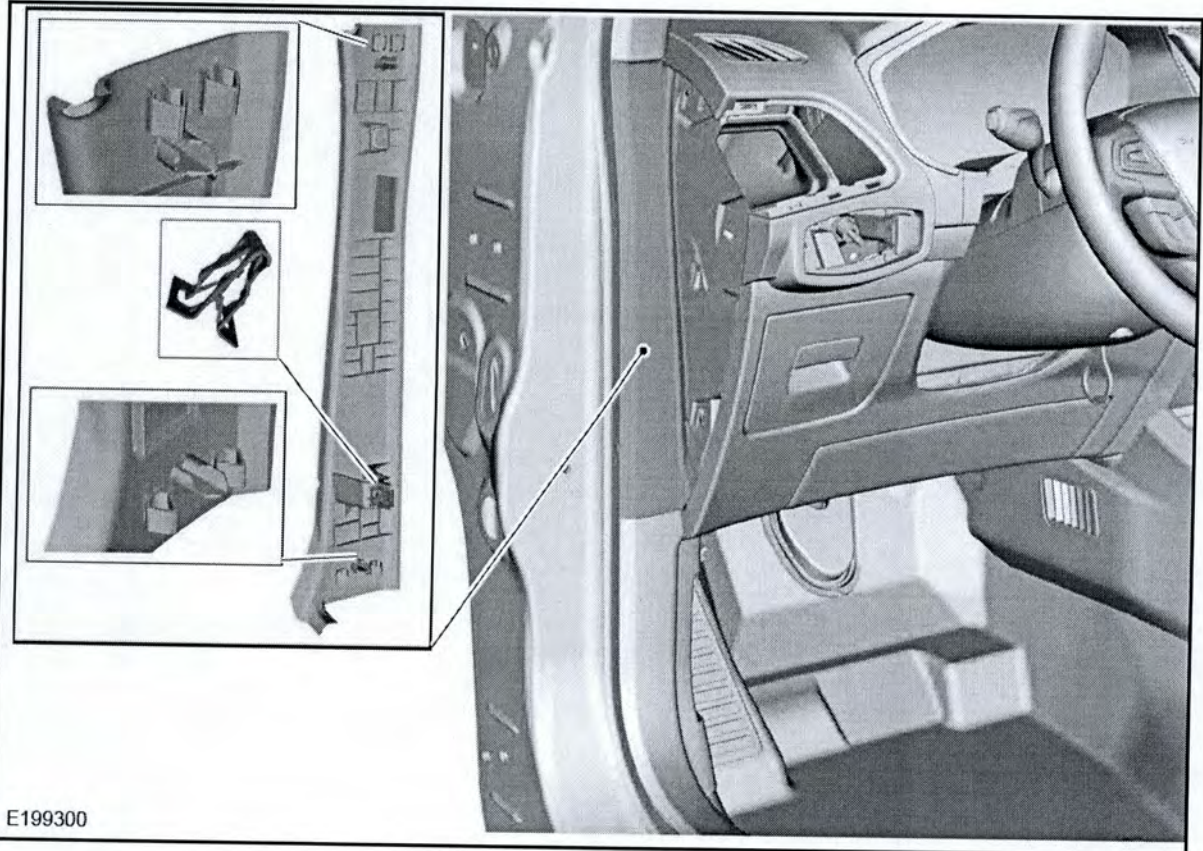

FIGURE 4
4. Release the clips and remove the LH and RH cowl panel upper trim panel. See Figure 4.